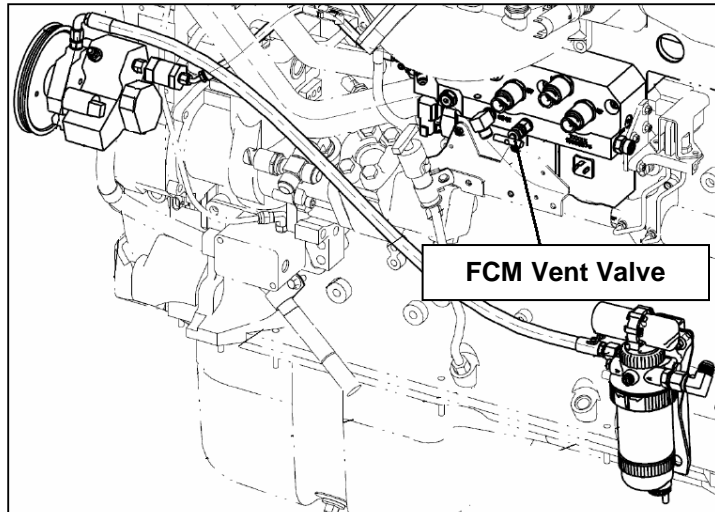

Figure 3. FCM Gas Vent Valve
6. Open the FCM gas vent valve (see Figure 3) to allow gas pressure in lines and accumulator to evacuate. A persisting venting sound should be audible through the vent stack at the rear of the cab as the accumulator drains. Loosen the thumbscrew more gradually until all gas pressure is fully relieved.
9. Open the gas vent valve on the FCM to allow gas pressure in lines to evacuate, see Figure 3. The venting should not persist for more than 5 seconds. If the venting persists, the accumulator shut-off valve or the LNG pump delivery check valve may be faulty. Identify the fault, and repair as necessary.
6. Connect the *Station Quick Disconnect Adaptor* (Blue) to the *Tank Adaptor*, see Figure 3.